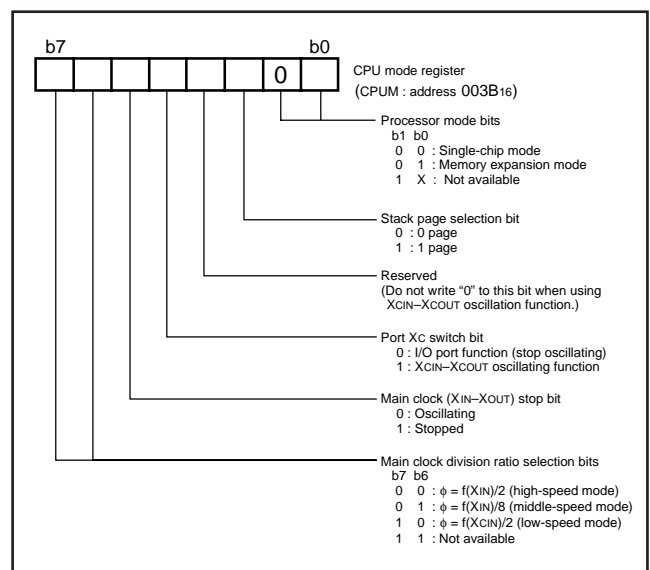

Fig. 80 CPU mode register bit configuration in CPU rewriting mode
Figure 80 shows the CPU mode register bit configuration in the CPU reprogramming mode. Set bit 1 to "0" (single-chip or memory expansion mode) in the CPU reprogramming mode.
- ① Apply 0 V to the CNVss/VPP pin for reset release.
- ② Set the CPU mode register (see Figure 80).
- ③ After CPU reprogramming mode control program is transferred to internal RAM, jump to this control program on RAM. (The following operations are controlled by this control program).
- ④ Set "1" to the CPU reprogramming mode select bit.
- ⑤ Apply VPPH to the CNVss/VPP pin.
- ⑥ Wait till CNVss/VPP pin becomes 12V.
- ⑦ Read the CPU reprogramming mode monitor flag to confirm whether the CPU reprogramming mode is valid.
- ⑧ The operation of the flash memory is executed by software-command-writing to the flash command register.